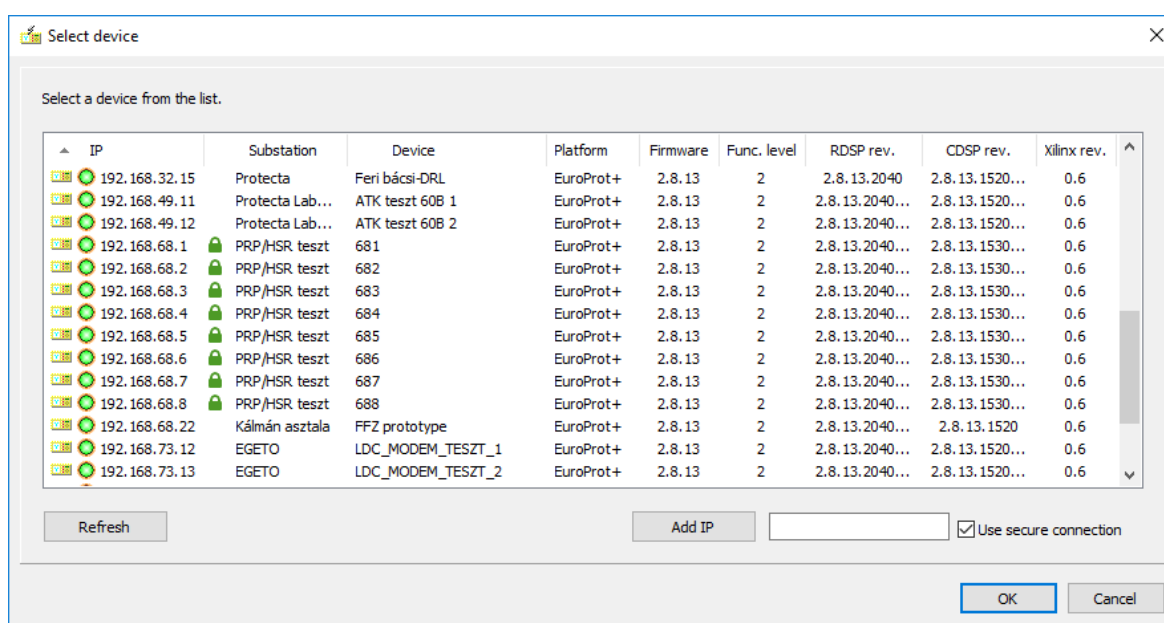

Figure 2-2 The “Select device” dialog
-  for uploading the configuration to a device connected to the Ethernet network. After clicking on the icon, one of the devices connected to the Ethernet network can be selected for processing. It takes a short time to find these devices, and then the “Select device” window is opened (See Figure 2-2). This window lists the responding devices together with their IP address, substation and device name and firmware identifiers. The selection is performed using the usual Windows methods. The alternative method of opening is to select “Project / Upload configuration” from the menu. In this case the user can choose between the current or previous version of the configuration stored in the device.
After selection and successful downloading (or after opening a stored configuration file), the window shown in Figure 2-2 opens automatically.